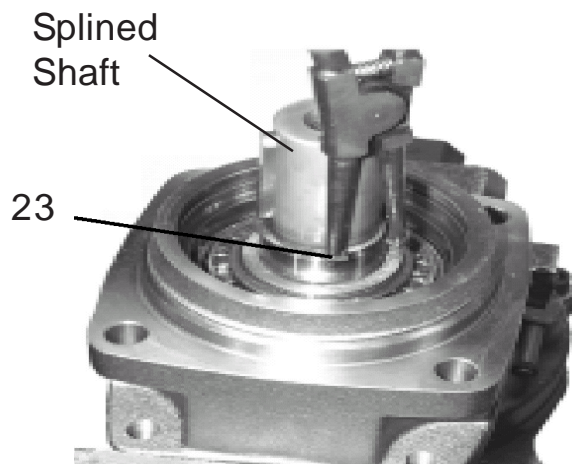

Figure 11
10. Remove External Snap Ring From Shaft. Looking down on the shaft as shown in Figure 11, there are spacer washers (items 11, 13 & 22) and external snap ring. Make certain to make a note of where they are located and how many there are. Use snap ring pliers to remove retaining ring, do not pry it off of shaft as this would scratch the shaft.